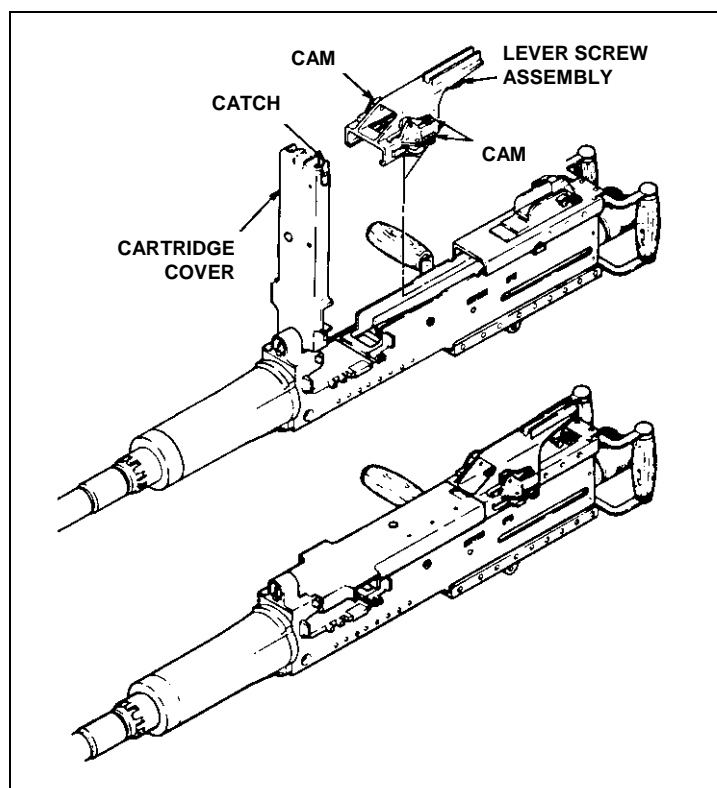

Figure G-4. Installation of M2 mounting bracket assembly.
a. **Mounting Procedures.** If the mounting bracket (Figure G-4) has not been installed already, install it now as described in TM 11-5855-214-10.
(1) Align the scribe line on the sight with the scribe line on the bracket.
(2) Place the sight in the groove of the bracket and tighten the lever screw clockwise.
(3) Secure the lever screw with lacing wire or tape to ensure the sight does not vibrate loose.
(4) Seat the device. After firing the initial burst, retighten the lever screw to ensure a secure mount for the sight. If unable to fire at this time, lightly shake the sight to ensure it is mounted correctly.